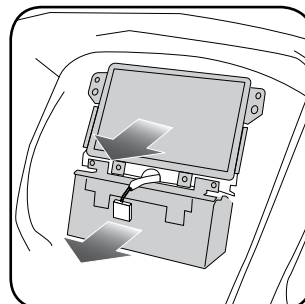

Fig. 1.7
7. Remove both the screen assembly and the radio body, disconnecting the plugs in the process. Remove the screws holding the screen frame in place and remove the screen frame. (Fig. 1.7)